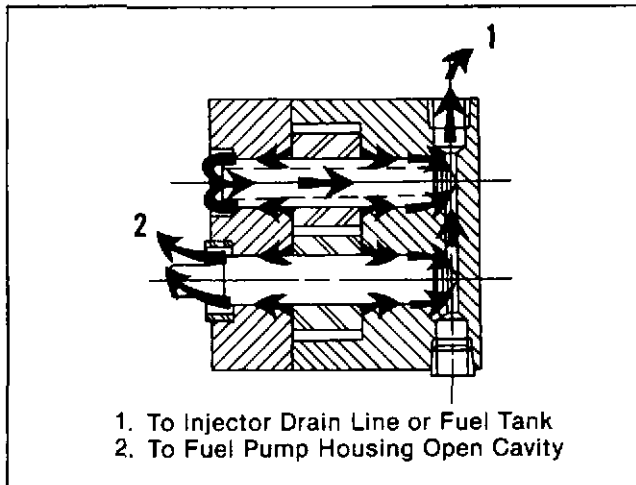

Fig. 5-4, (F5157). Gear pump cooling and lubricating fuel flow.
6. If the cooling system is in use, install the elbow and/or the check valve. If 1/8 inch [3.17 mm] pipe plugs are in use, tighten them to 10 to 13 foot pounds [14 to 18 N•m], Fig. 5-4.